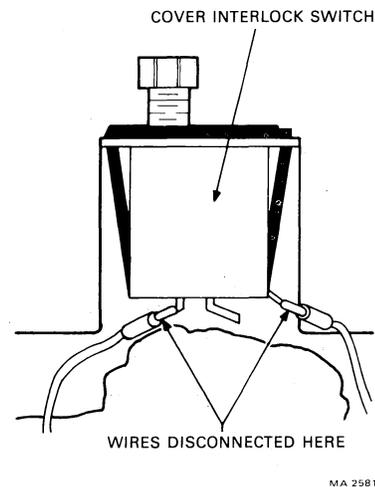

Fig. 16—Cover Interlock Switch
- (h) Remove the cover interlock switch (Figure 16).
- (f) Install the cover interlock switch (Figure 16).